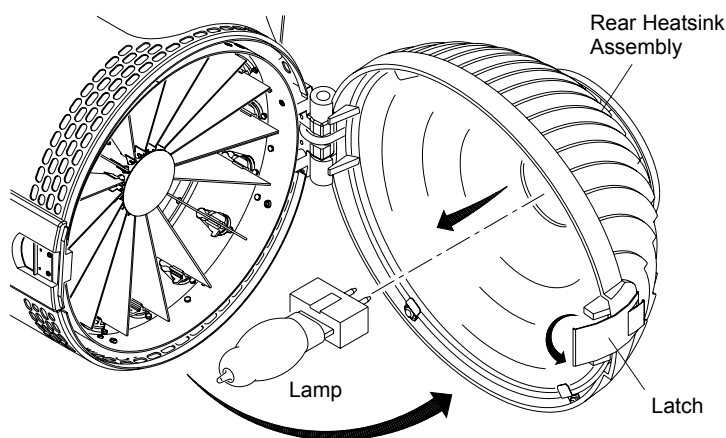

Figure 4-1: VL5+ Lamp Replacement
- Step 3. Unlatch and swing open rear heatsink assembly (**Figure 4-1**).